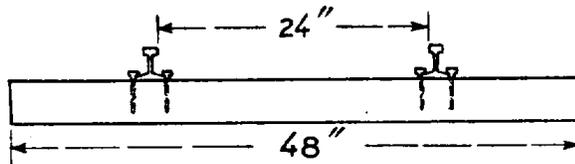
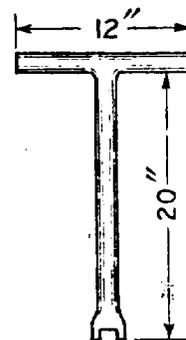

FIG. 6.
FIG. 7.
11. If the track is laid on wooden ties, railroad spikes will ordinarily be used to fasten the rail. However, circumstances may demand that the railroad be laid without noise, in which case lag bolts can be used instead of spikes (fig. 6). A wrench for lag bolts is shown in fig. 7.